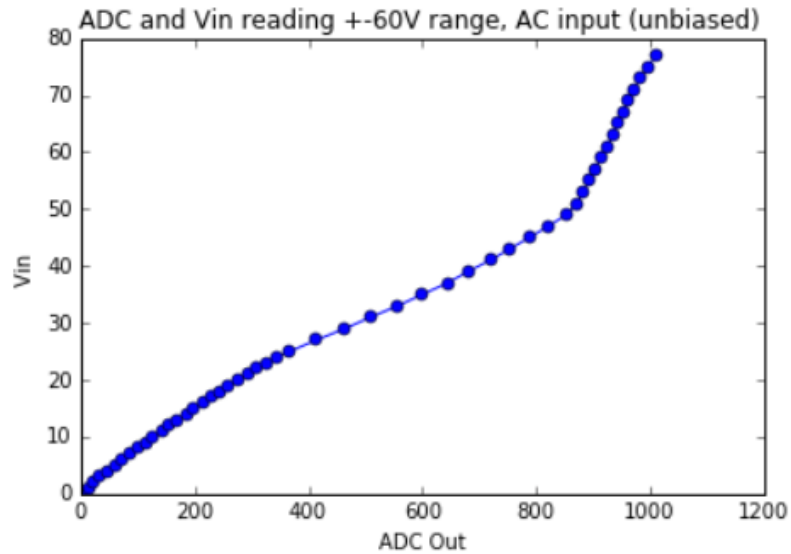

FIGURE 9 - ADC and Vin Reading ±60V Range, AC Input (unbiased)
Figures 9 and 10 plot the ADC readings versus V_{in} (AC) for 60V and 20V ranges respectively. As before, a segmented regression function had to be calculated for a reasonable fit with the data points.